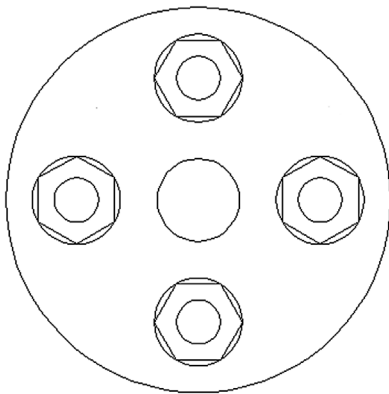

FIGURE 8.26 Bolt array completed.
Step 6. Array the bolt around the top view four times, as shown in Fig. 8.26.